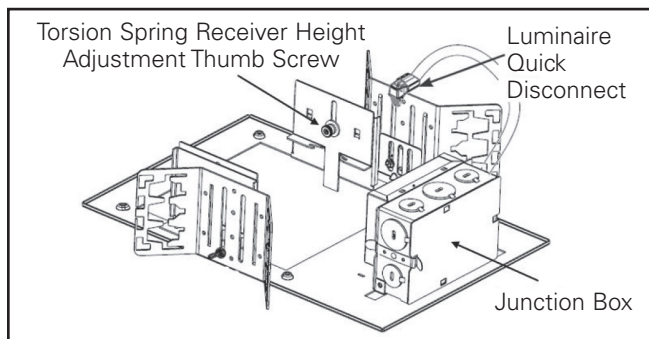
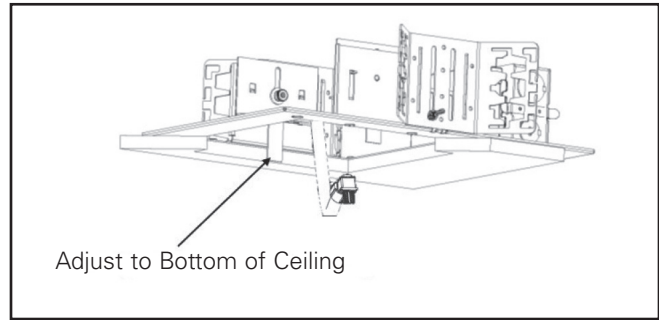

Figure 1
Figure 2
2. Adjust torsion spring receiver screws (Figure 1.) so bottom of neck is flush with finished ceiling line. (Figure 2.) Hanger bracket is reversible for total adjustment of 5".
1. Place end of flexible conduit through frame opening in ceiling exposing upper portion of quick disconnect (Figure 2.).